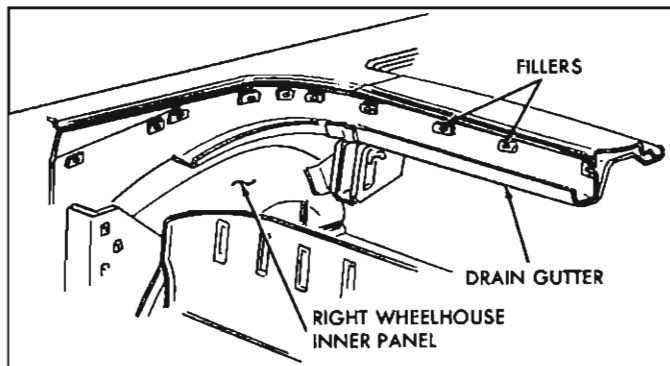

Fig. 51—Checking Trim Stick Filler
12. Inspect rubber trim stick fillers cemented to body below pinchweld. Recement if necessary (fig. 51).